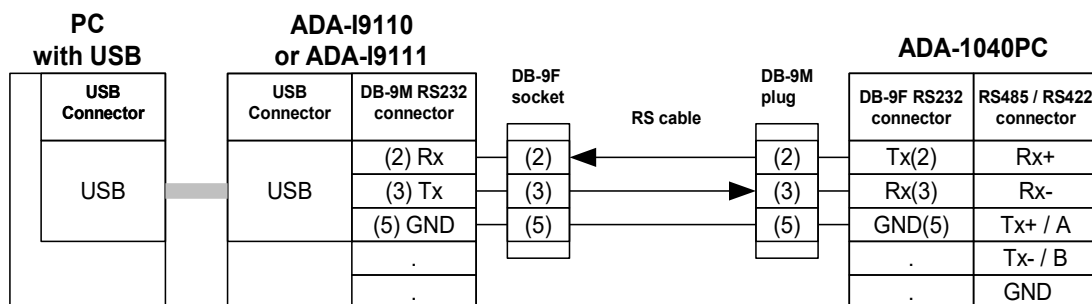

Fig. 5. ADA-1040PC1 connection to Pc by the use of USB to RS232 converter ADA-I9110/ADA-I9111
- USB port of computer, should have additional converter USB to RS232 (ADA-I9110 or ADA-I9111), which connect to RS232 port of ADA-1040PC1, like on the Fig.5.